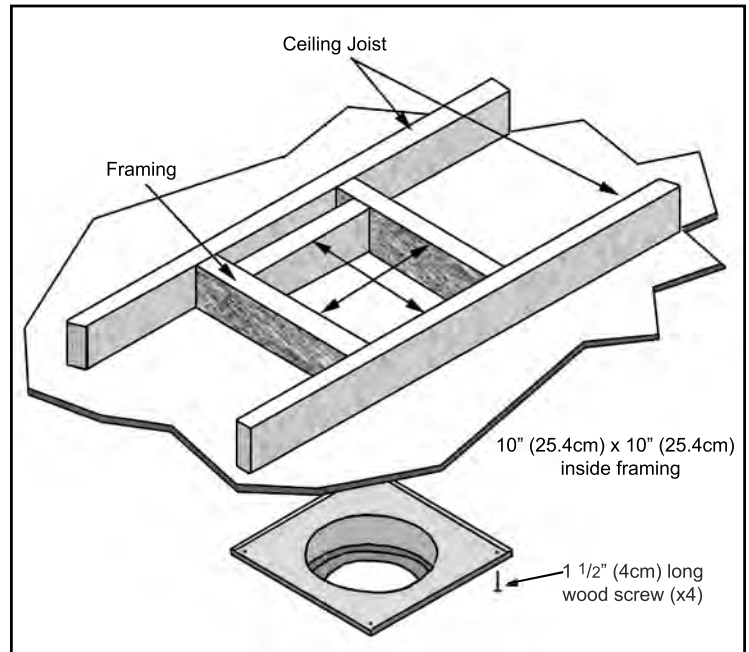
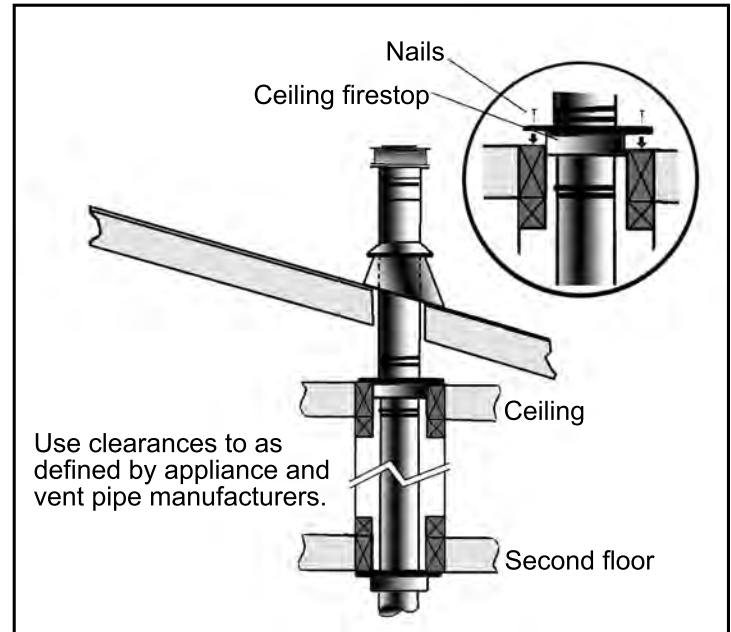

Figure 36: Wall Framing for Hole for Vertical Installation.
Figure 40: Multi-Story Vent Pipe Installation.
3. To install the Round Support Box/Wall Thimble in a flat ceiling, cut a 10" square hole in the ceiling, centered in the hole drilled in Step 2. Frame the hole as shown in Figure 36.
- (c) For multi story installations. A ceiling firestop is required at the second floor, and any subsequent floors (see Figure 40). The opening should be framed to 10" (25.4 cm) x 10" (25.4 cm) inside dimensions, in the same manner as shown in Figure 36.
Cut a 10" (25.4 cm) hole in the ceiling and the roof. Refer to Figure 36.